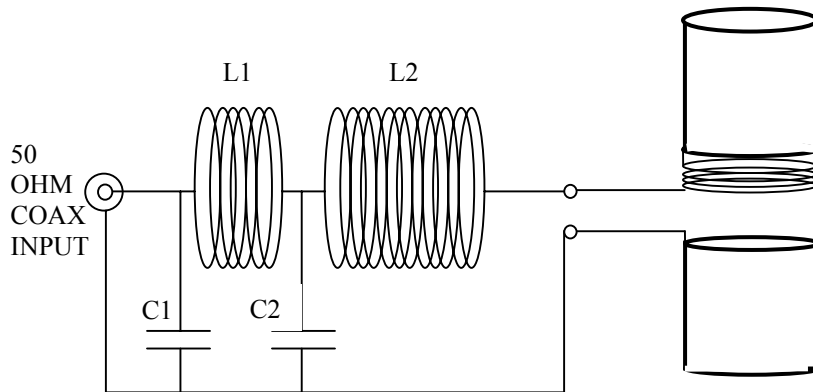

FIGURE 5 – A PREFERRED NETWORK TO FEED AN EH ANTENNA
A network that will handily provide this transformation is composed of an L network followed by a T network. If we choose to allow the L network to transform from 50 to 25 ohms, there will be a corresponding phase delay of 45 degrees. Therefore, that amount of phase delay can be subtracted from 178.5 to give 133.5 degrees, the necessary design value for the T network. With that information, you can go to the web site of Dr. Grant Bingaman (www.qsl.net/km5kg) and it will readily allow you to use a program to determine the component values of the network. By the way, if you do any experimenting, this program is a must. A schematic of the network is shown in Figure 5. A T network is comprised of two coils and the L network has 1. We have combined the input coil of the T network with the L network coil, thus the overall network has been reduced to 2 coils. For most implementations, I use a single coil with taps, except I place part of L2 between the dipole elements. There are two (2) reasons for this. First, if the feed wires going to the dipole are phased properly to cause the antenna to radiate, there will be radiation from the feed wires. A few turns at the antenna will cause a phase difference in the feed wires and prevent radiation from them. Secondly, there is a concern of high voltage.